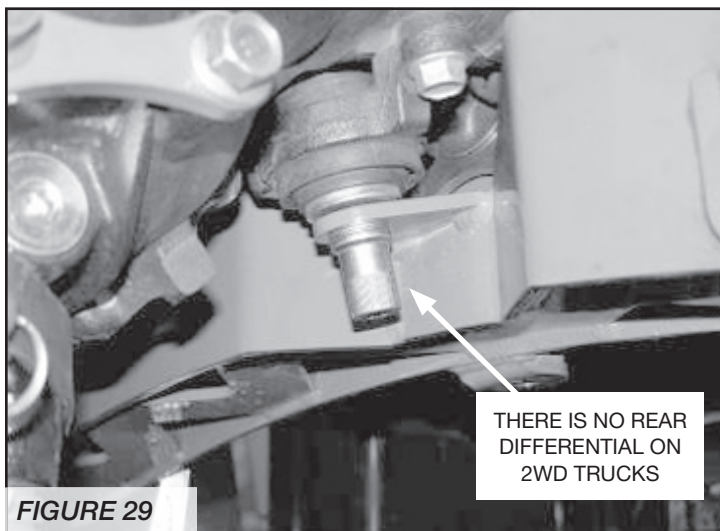

FIGURE 29
21. Locate the Fabtech rear crossmember FT70052 06-09 models FT70163 10-12 models, with the supplied 9/16"x5 bolts, nuts, and washers install the crossmember to the factory control arm pockets. Leave loose at this time. Re-install the factory rear differential nut at this time. **SEE FIGURE 29**